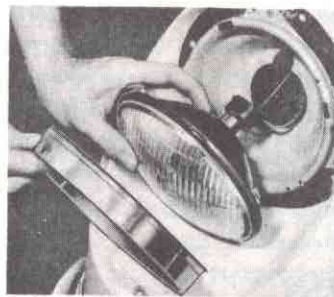

Fig. 77—Removing Retaining Ring and Sealed Beam Unit
3. Rotate retaining ring counter-clockwise and remove ring (fig. 77).